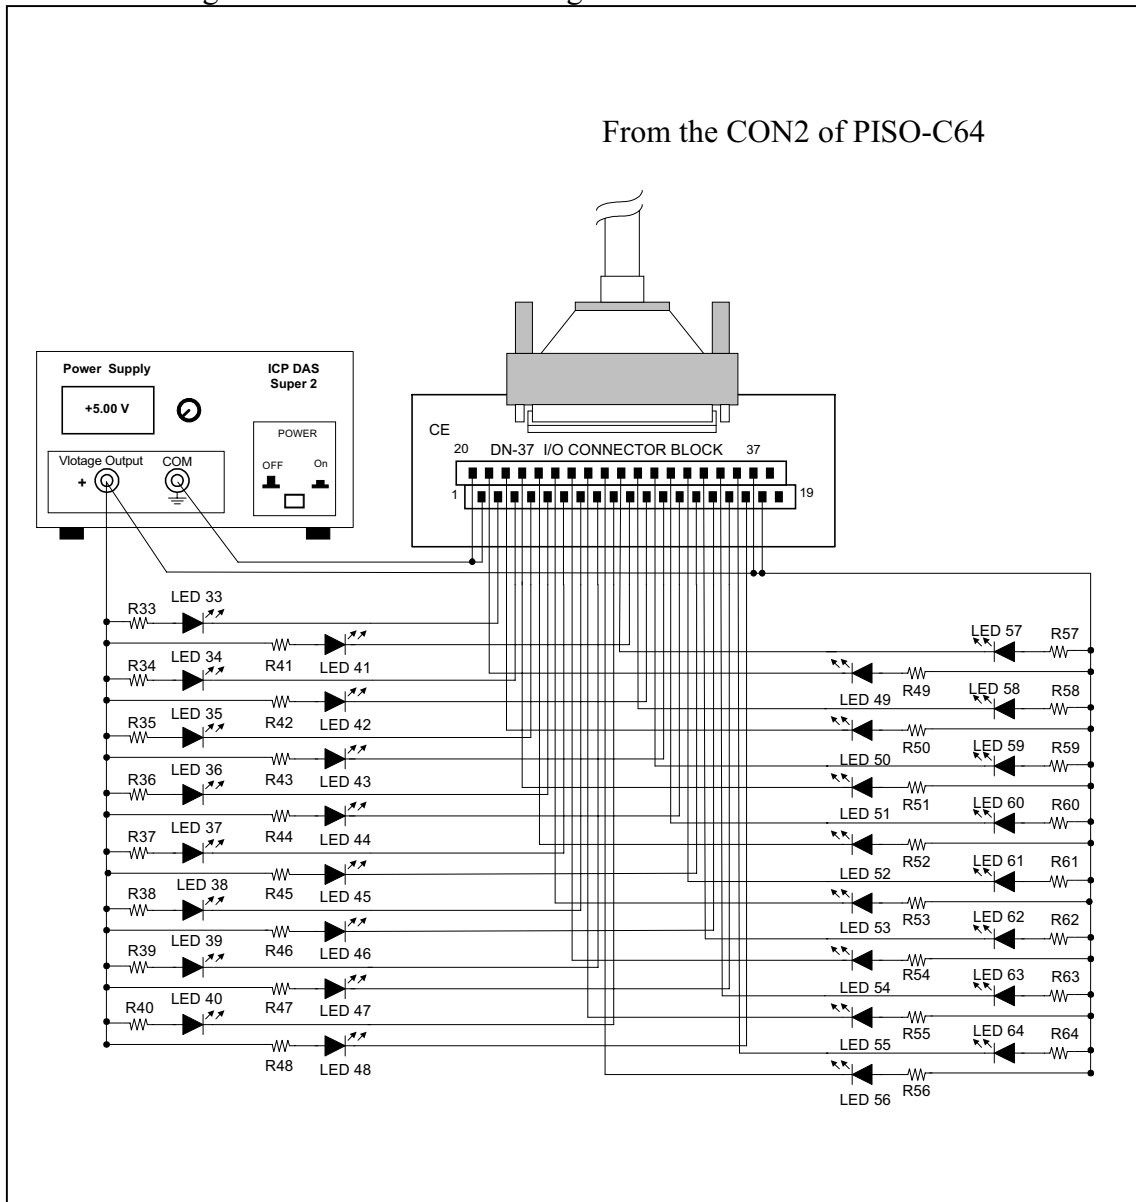

Figure 4-3-3. The circuit diagram of external device 2 for the digital outputs of PISO-C64
- The circuit diagram of external device 2: Refer to Figure 4-3-3